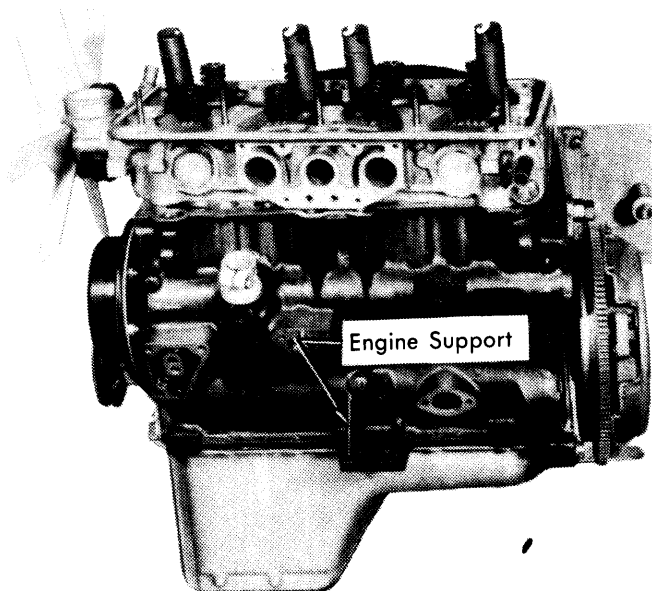

Fig. 6 View of Engine with Auxiliary Equipment Removed
1) Drain crankcase. With engine suitably supported on an engine stand, remove intake and exhaust manifolds. Remove all auxiliary equipment to point shown in Fig. 6.